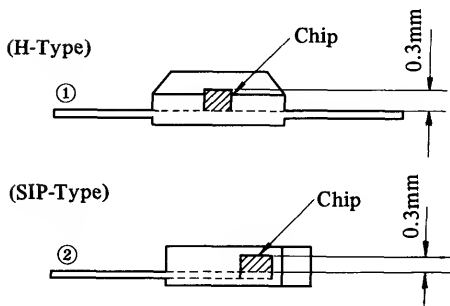

Fig. 4
(3) A Hall sensor is mounted on the fourth terminal for the H-type or on the second terminal for the SIP-type; the operating layer is about 0.3mm above the terminal surface. (See Fig. 4)